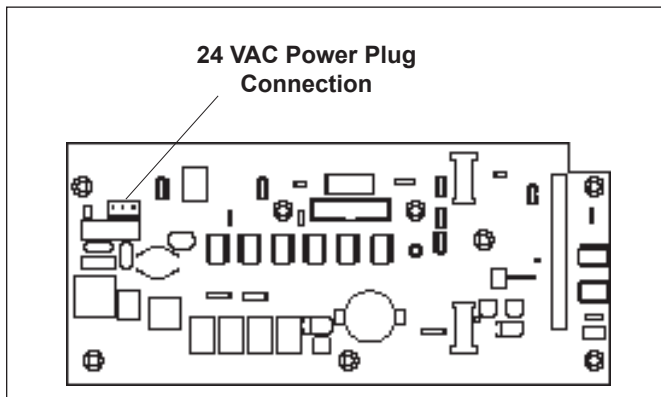

Figure 3. Power Center PCB (back view)
1. Plug the orange 24 VAC power plug from the transformer into its 3-pin terminal on the back of the Low Voltage Bezel. Mount the Bezel to the Power Center with the screws provided (see Figure 3).